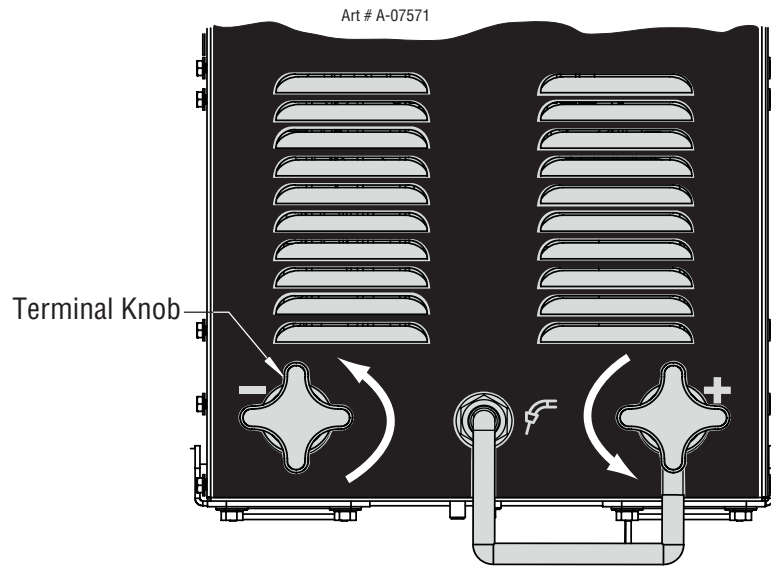

Figure 3-11: Remove Terminal Knobs
- Locate the two terminal knobs at the bottom of the machine. Refer to Figure 3-11.
- Remove both terminal knobs by rotating counter-clockwise. Refer to Figure 3-11.